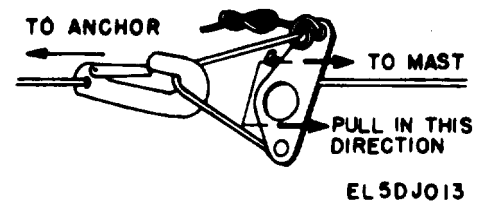

Figure 2-8. Pulling guy rope taut.
(2) Pull snubber along guy in direction towards mast (fig. 2-8).